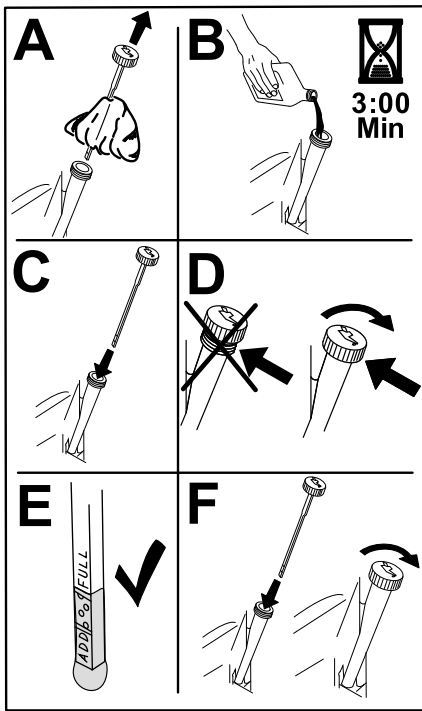

Figure 36
6. Slowly pour approximately 80% of the specified oil into the filler tube and slowly add the additional oil to bring it to the **Full** mark (Figure 36).